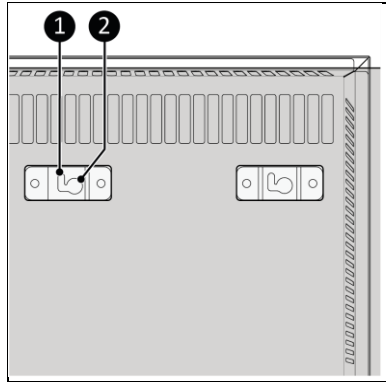

Figure 12
10. Place the bracket holes (Figure 12, pos. 2) over the wall screws.
11. Slide the device to the left and let the device drop into the opening of the brackets (Figure 12, pos. 1).